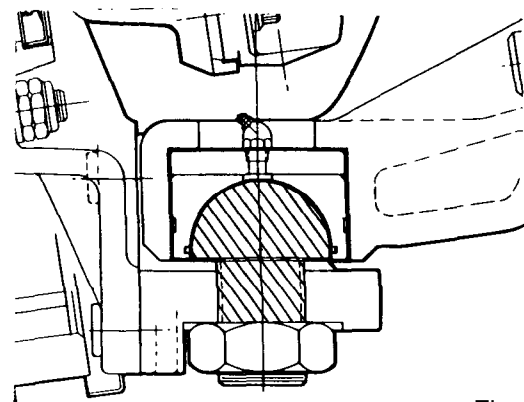

Fig. 6C
5. Screw the lower kingpin ball stud upward until the ball makes contact with the bushing. You will feel a slight resistance in turning the ball stud. (See fig. 6C.)